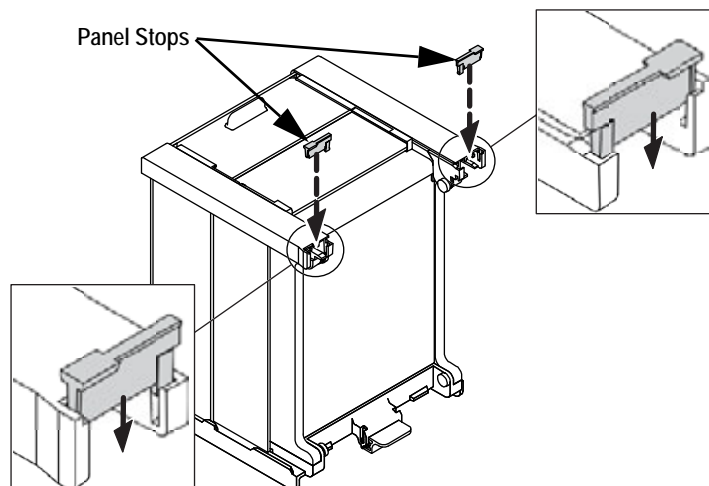

Figure 2-13. Insert Panel Stops
13. Insert the panel stops as shown in Figure 2-13. Orient them with the wider end on the stop to the outside.
16. Place the shield on the balance as shown in Figure 2-13.